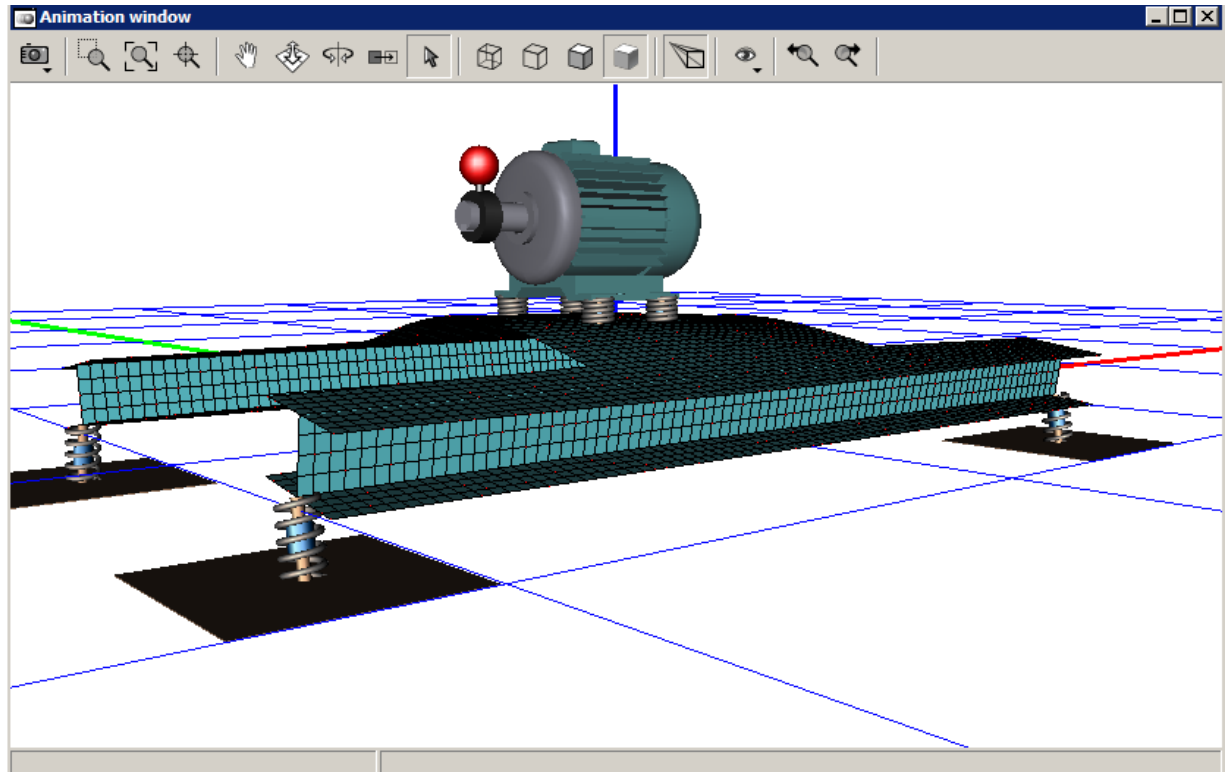

Figure 2.55. Animation of second eigenmode, 24.0617 Hz
6. You can see eigenmodes of the model in the animation window. To see an eigenmode just select it in the list and click the **Run** button . Now you can see that the animation window shows any selected eigenmode of the model. For example, animation of second eigenmode, 24.0617 Hz is shown at Figure 2.55. To stop animation click the **Stop** button .